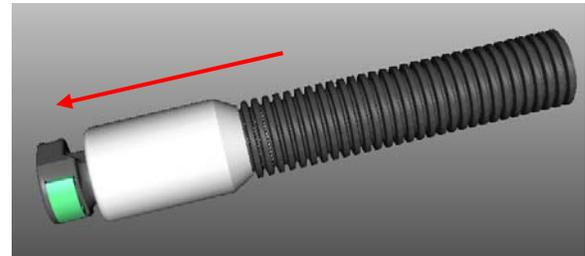

Fig. 1
4. Push DEF hose fitting toward tube to relieve the force on the hose fitting. (Fig. 1)